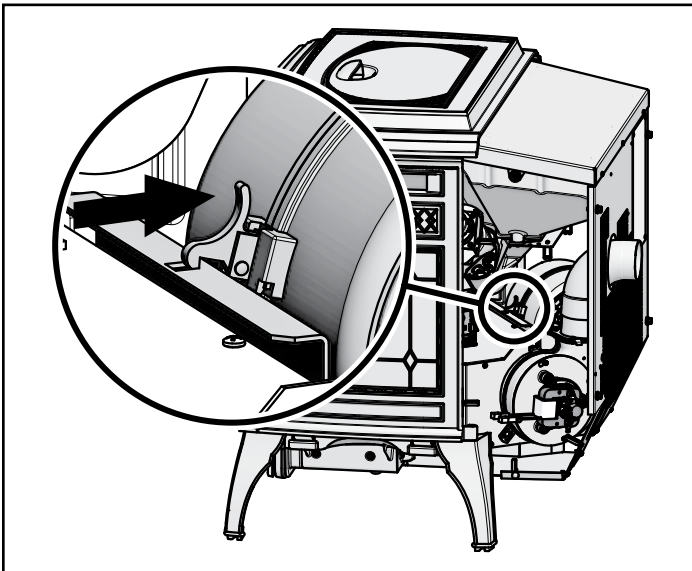

Figure 25.1
2. Remove the left side panel by loosening the 2 screws using a Phillips head screw driver or wrench (**Figure 25.1**).
5. Reach behind the blower and release the latch by pushing the top of the latch towards the blower (**Figure 25.1**).
8. When the blower is properly positioned the latch will engage the notch to hold the blower in place (**Figure 25.1**).